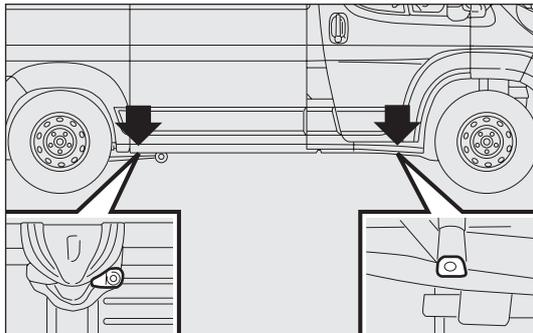
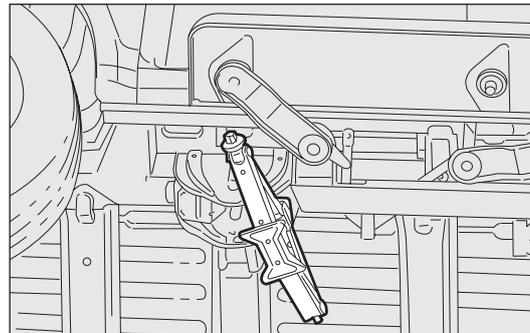

fig. 159
fig. 160
- arrange the jack near the lift support closest to the wheel to be replaced at the points shown in fig. 159. For short wheelbase versions with retractable footboard, the jack must be positioned at the lift point shown in fig. 160 aligned (45°) so that it does not interfere with the retractable footboard;